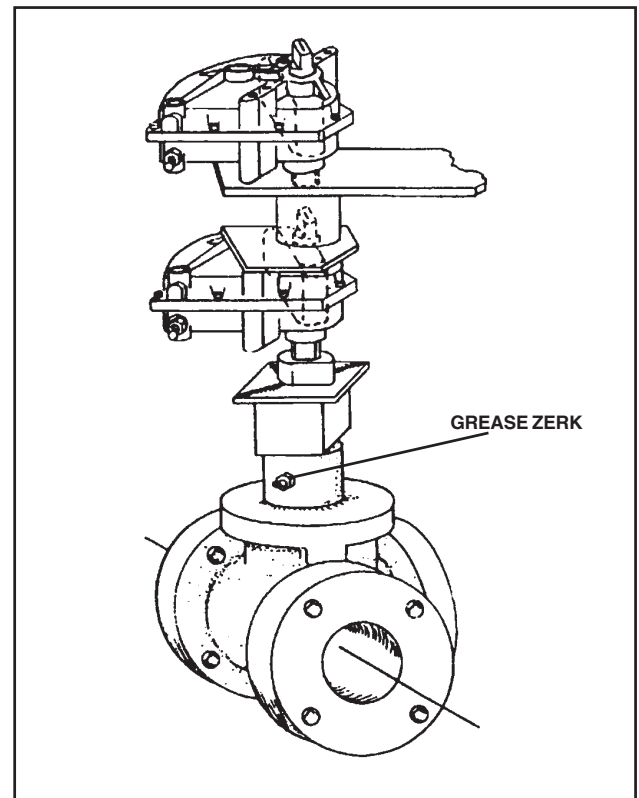

FIGURE 4-2. ASPHALT PUMP VALVE
2. Lubricate asphalt circuit valve stems, one location on the 3-Way valve and the 2-Way valve every 3 hours or twice daily. Figure 4-2 shows the 3-Way valve.